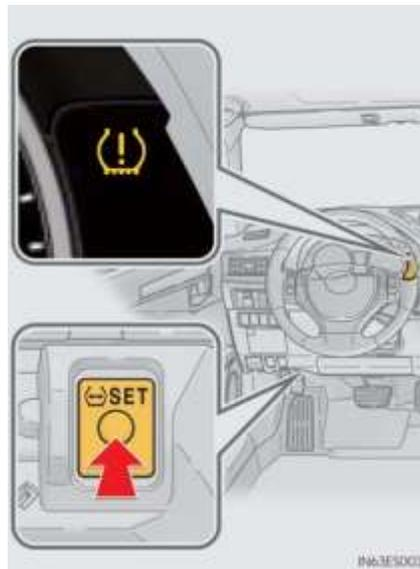

Figure 13
4. Press and hold the tire pressure warning reset switch until the tire pressure warning light flashes slowly three times (Figure 13).